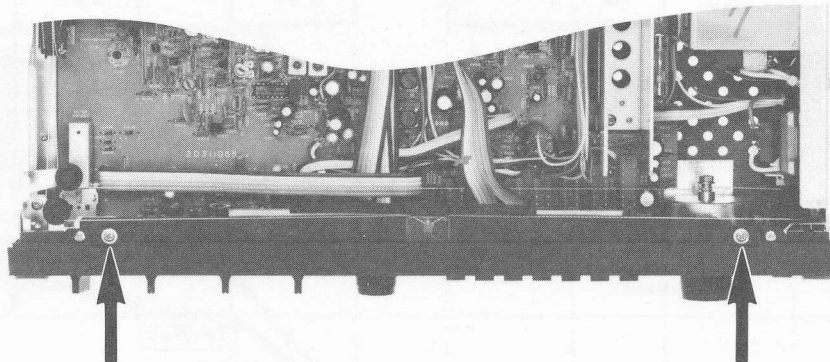

Figure 3-4
- b. Remove two screws from top of Front Panel (Figure 3-4).